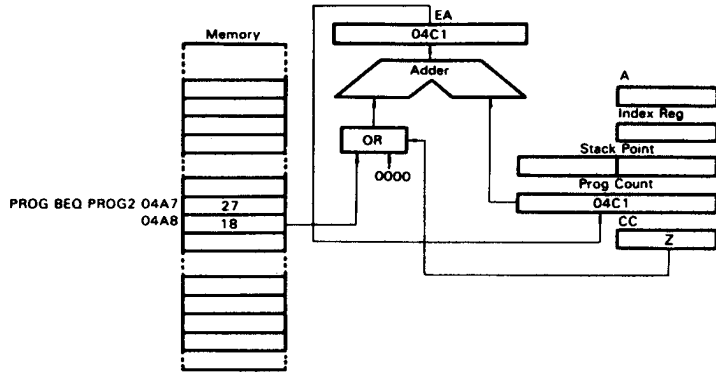

Fig. 60 Example of Relative Addressing
See Fig. 60. Relative addressing is only used in branch instructions. When a branch occurs, the contents of the byte following the opcode is added to the PC. $EA = (PC)+2+Rel$. Where (PC) indicates the contents of the PC and Rel. indicates the 8-bit signed data in the location following the instruction opcode. If no branch occurs, Rel. = 0. When a branch takes place, the program jumps to any byte within the range +129 to -127 of the present instruction. These branch instructions are